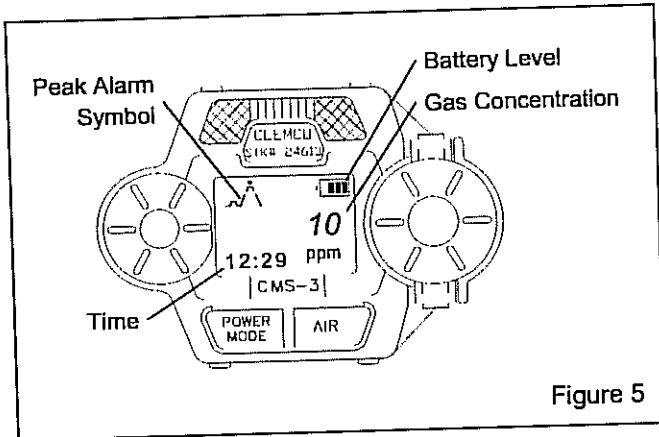

Figure 5
This section describes the normal operation of the CMS-3, and includes alarm indications. Ref. Figure 5
3.6.5 The LCD should display the Low (LO) Alarm setting (10 ppm), the battery level, and peak alarm symbol as Shown in Figure 5. *NOTE: If the LCD shows "CAL" in the lower left corner, the CMS-3 is in Calibration Mode. Press and hold the POWER/MODE button to turn off the unit. Repeat the process beginning with Paragraph 3.6.2.*